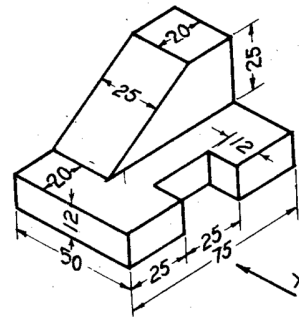

FIG. 18-26
(4) Fig. 18-26: (i) Front view. (ii) Side view from the left. (iii) Top view. Use first-angle projection method.